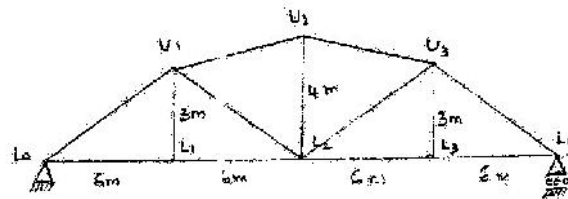

Fig. 3
12. Construct the influence line diagram for forces in the members U_1L_1 , L_1L_2 and U_1L_2 for the truss shown in fig. 3. Hence calculate the forces in these members due to a dead load of 20 kN/m and moving live load of 30 kN/m which is longer than the span.